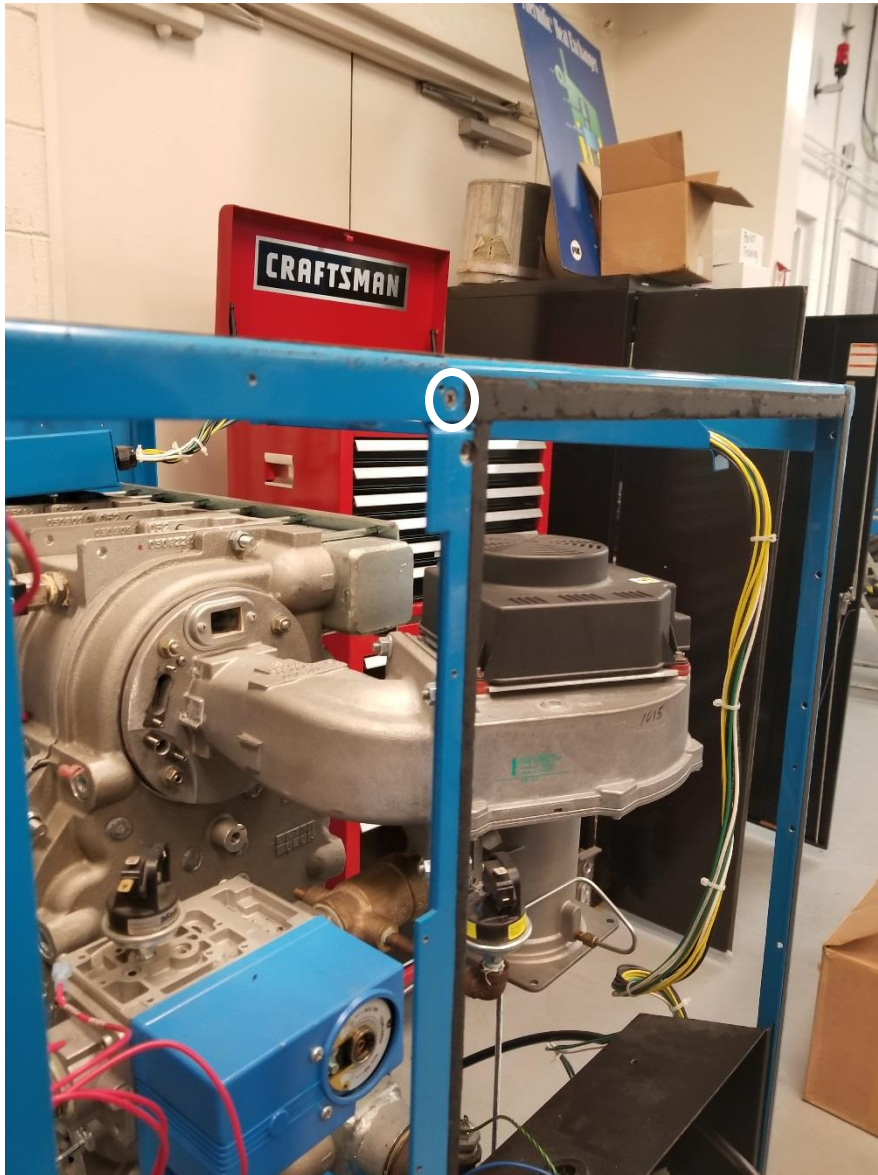

Figure 6
8. Remove 2 Phillips head screws located at top and bottom of vertical bar shown in figure 6.